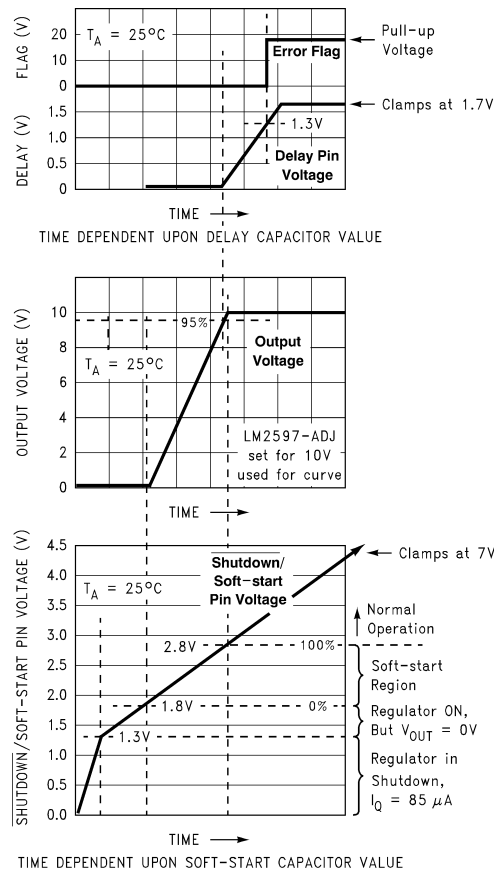
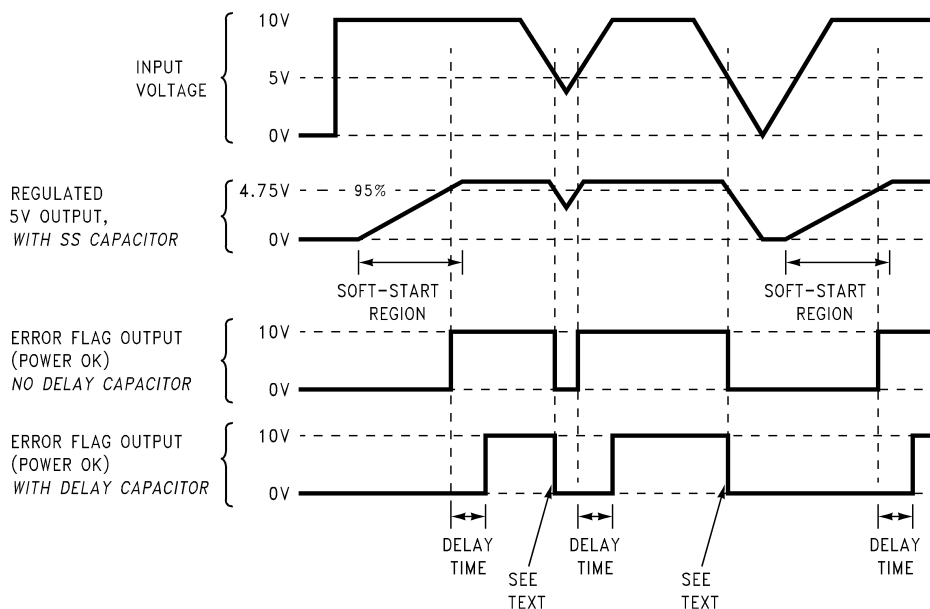

Figure 31. Soft-Start, Delay, Error, and Output
Figure 33. Timing Diagram for 5-V Output
A capacitor on this pin provides the regulator with a soft-start feature (slow start-up). When the DC input voltage is first applied to the regulator, or when the Shutdown/Soft-start pin is allowed to go high, a constant current (approximately 5 μ A begins charging this capacitor). As the capacitor voltage rises, the regulator goes through four operating regions (see the bottom curve in Figure 31).
3. Soft-start Region – When the $\overline{SD/SS}$ pin voltage is between 1.8 V and 2.8 V (at 25°C), the regulator is in a soft-start condition. The switch (Pin 8) duty cycle initially starts out very low, with narrow pulses and gradually get wider as the capacitor $\overline{SD/SS}$ pin ramps up towards 2.8 V. As the duty cycle increases, the output voltage also increases at a controlled ramp up. See the center curve in Figure 31. The input supply current requirement also starts out at a low level for the narrow pulses and ramp up in a controlled manner. This is a very useful feature in some switcher topologies that require large start-up currents (such as the inverting configuration) which can load down the input power supply.
The lower curve shown in Figure 31 shows the soft-start region from 0% to 100%. This is not the duty cycle percentage, but the output voltage percentage. Also, the soft-start voltage range has a negative temperature coefficient associated with it. See the soft-start curve in Electrical Characteristics.
Provides delay for the error flag output. See the upper curve in Figure 31, and also refer to timing diagrams in Figure 33. A capacitor on this pin provides a time delay between the time the regulated output voltage (when it is increasing in value) reaches 95% of the nominal output voltage, and the time the error flag output goes high. A 3-μA constant current from the delay pin charges the delay capacitor resulting in a voltage ramp. When this voltage reaches a threshold of approximately 1.3 V, the open collector error flag output (or power OK) goes high. This signal can be used to indicate that the regulated output has reached the correct voltage and has stabilized.